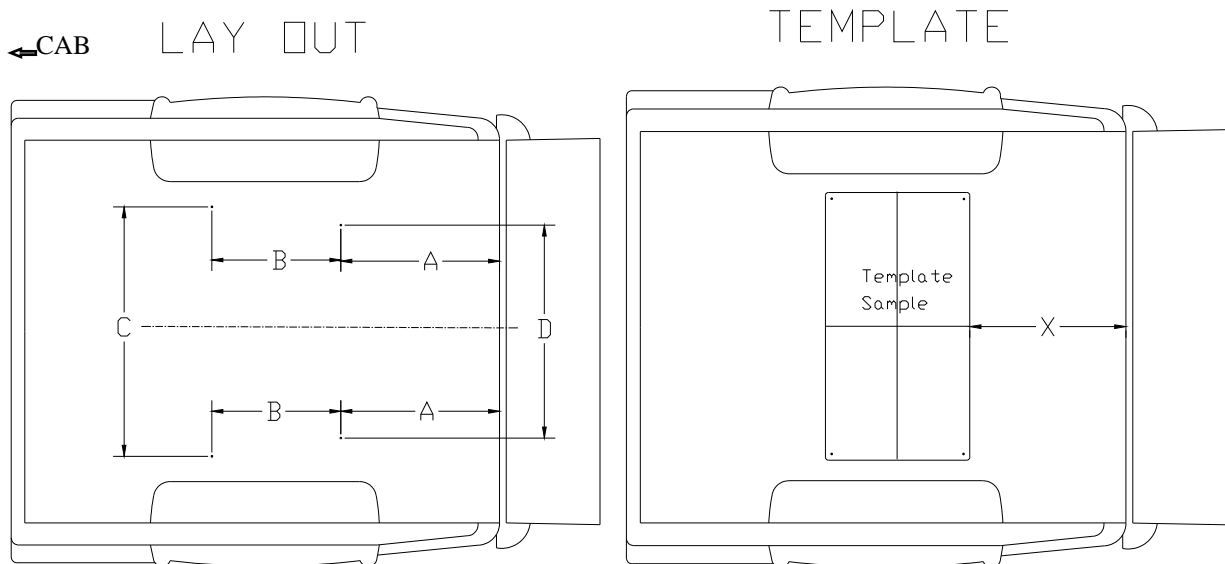

Figure 5
4. Find the centerline of the bed. Draw a line down the middle of the bed from front to rear. See **Figure 5 on pg. 7**. Center the measurement of **C** across the centerline at the front most line you made in step 2, and mark the measurement on each side (parallel to the centerline). Center the measurement of **D** for the rear most line made in step 2, and again mark the measurement on each side (parallel to the centerline). This will locate the 4 drill holes.
NOTES: The TEMPLATE should be orientated as shown in Figure 5 above after checking dimensions "C" and "D" in the table below.